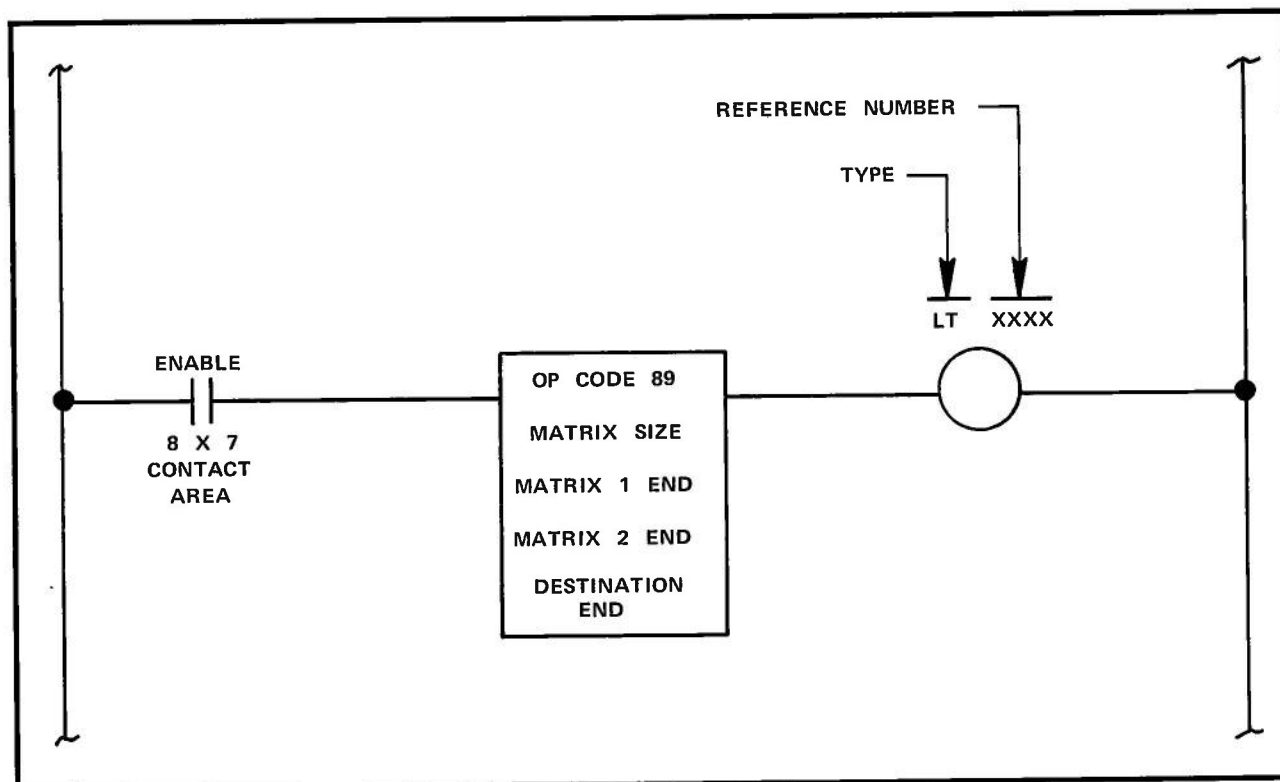

Figure 1. OR Matrix (OM)
The OR Matrix (OM) function logically OR's the contents of a pair of matrices on a bit-per-bit basis; then, it places the result in a destination matrix location. OM function symbology is shown in Figure 1.